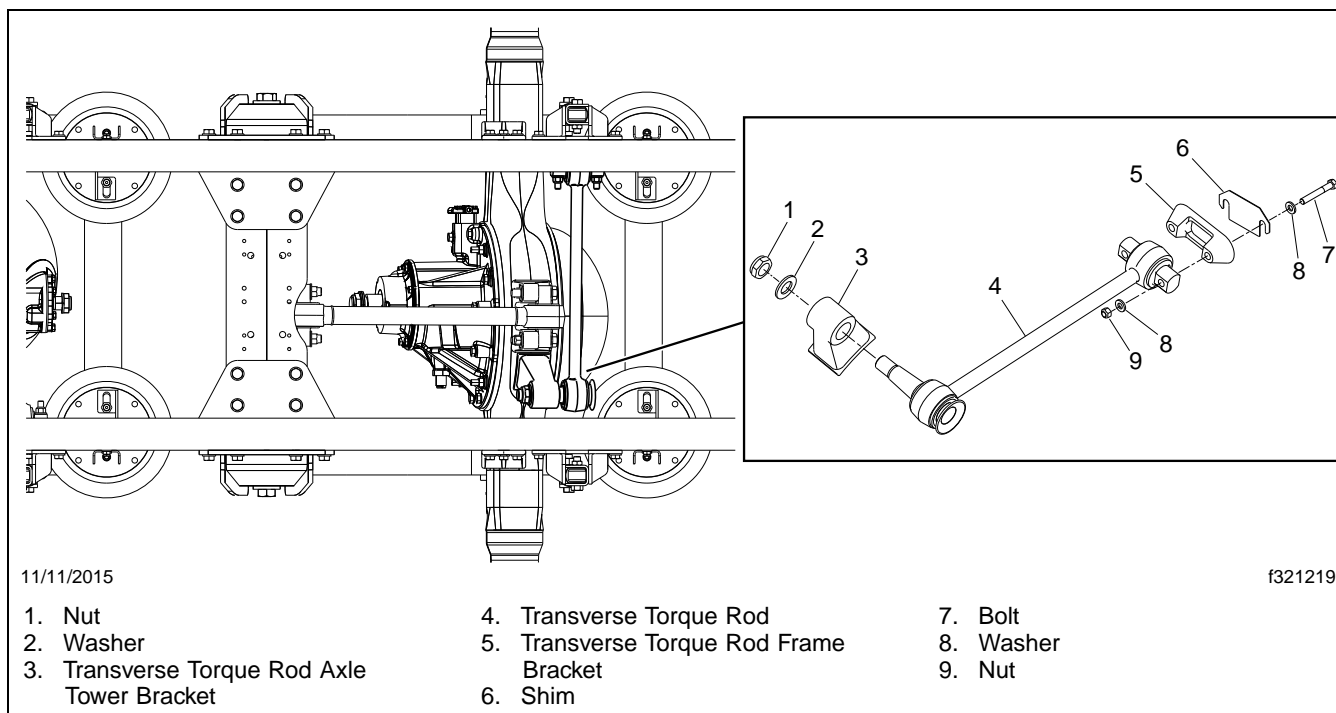

Fig. 1, Neway Suspension Rearmost Axle Assembly
5. Remove the three mounting fasteners from the transverse torque rod and discard the rod and fasteners. Save the shims. See **Fig. 1**.